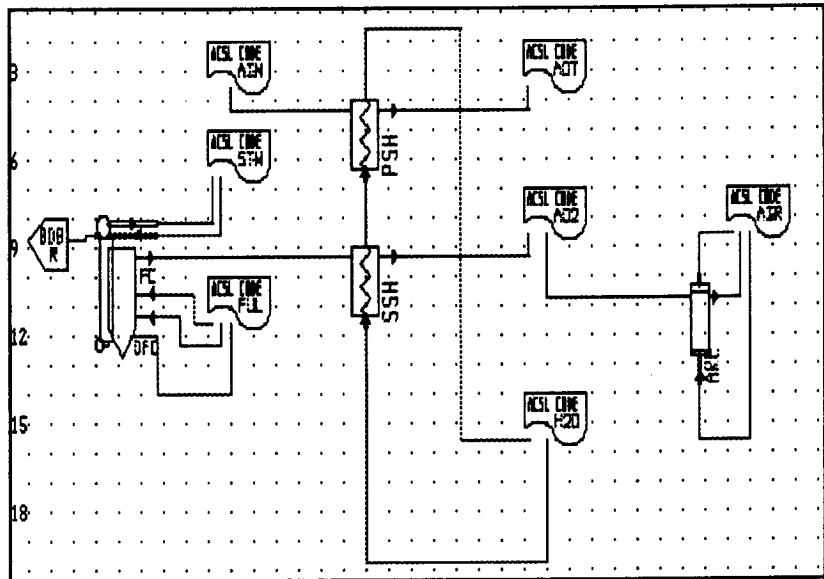

Figure 6: Code as Boundary Conditions
2. Figure 6 shows the ACSL CODE icon connected to the air/gas paths of DRUMNC, SPRHTR, and AIRHX. For example, the CODE icon with ID = 'AIN' connects to the gas entering (GE) port of the primary superheater, ID = 'PSH'. Since the 'EN' port of 'AIN' is used, the flow stream identifier for the gas flow entering 'PSH' will be 'AINE' (AIN + E: the 'E' comes from the first letter of the port 'EN' on 'AIN'.)